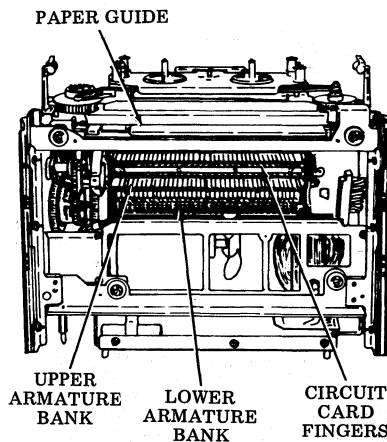

Fig. 27
4.06 Brush and/or wipe any foreign material away from the armatures and bottom of paper guide. Spray the upper and lower antifreeze strips across the entire bank and circuit card fingers with 337449 cleaner (Fig. 27).